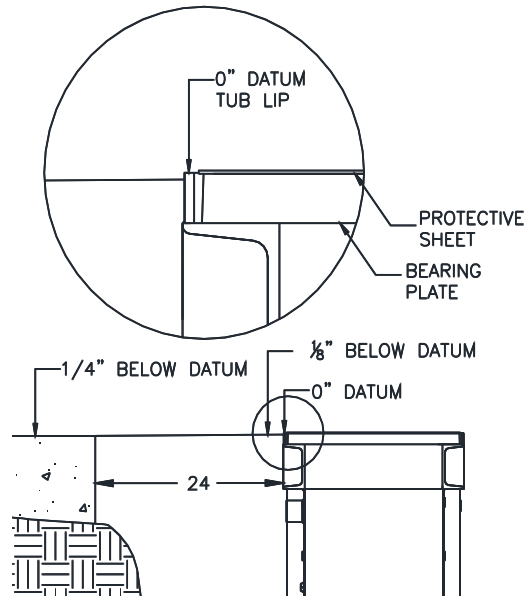

Fig 8- Elevation Dimension
- Run the 2" PVC chase from the control area and join to the lift / containment assembly. Fill joints with silicone. All PVC joints must be leak proof. The power unit end of the chase should be finished as shown in **Figure 8** to prevent contamination from entering the chase, while allowing the system to breathe.
- Install rebar to tie in with the rest of the flooring. While taking care not to run concrete on top of the lift / containment assembly, pour the remainder of the concrete. See **Note and Fig 8**.